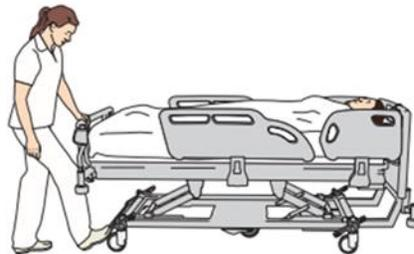

Fig. 17
1. Deactivate *IndiGo* and apply brakes by placing the pedal in the most downward position. See Fig. 17